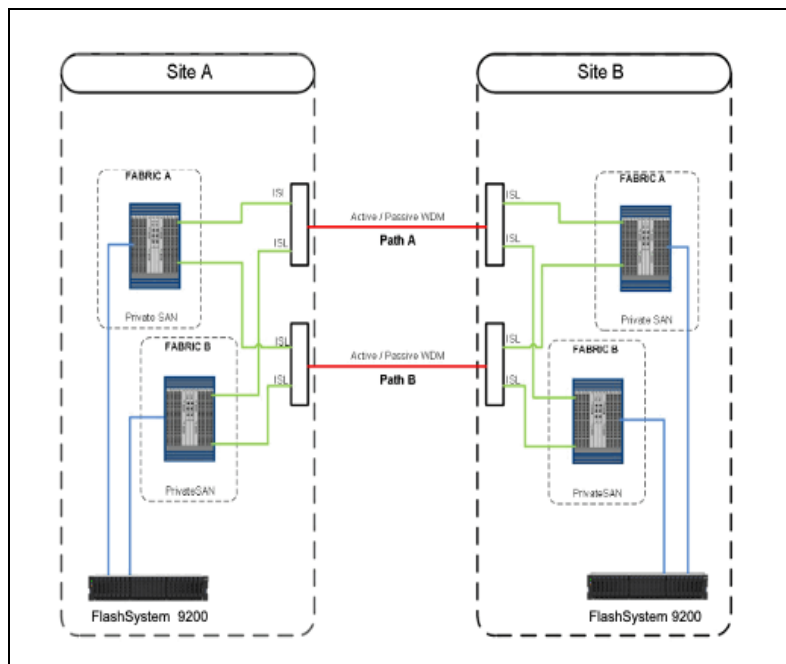

Figure 2-17 Configuration 1: Physical Paths Shared Among Fabrics
- In Configuration 1, shown in Figure 2-17, one ISL per fabric is attached to each DWDM. In this case, the physical paths Path A and Path B are used to extend both fabrics.